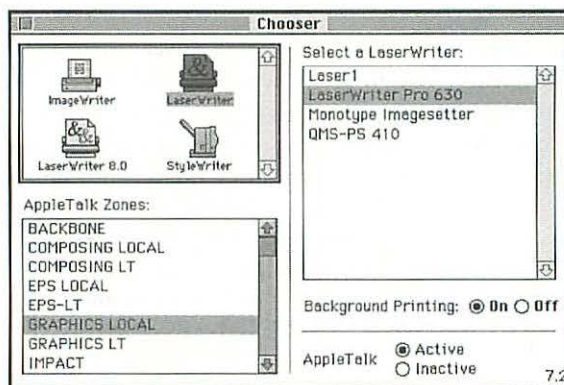

Figure 11.3 Choose the correct printer in the Chooser window.
- The box on the right side of the Chooser contains the names of the printer or printers that are available, as shown in Figure 11.3. If only one printer is available, it will appear in the upper left window and must be selected prior to printing from an application. If more printers are available, all of them will appear in the upper left window, and only one can be selected at any given time.